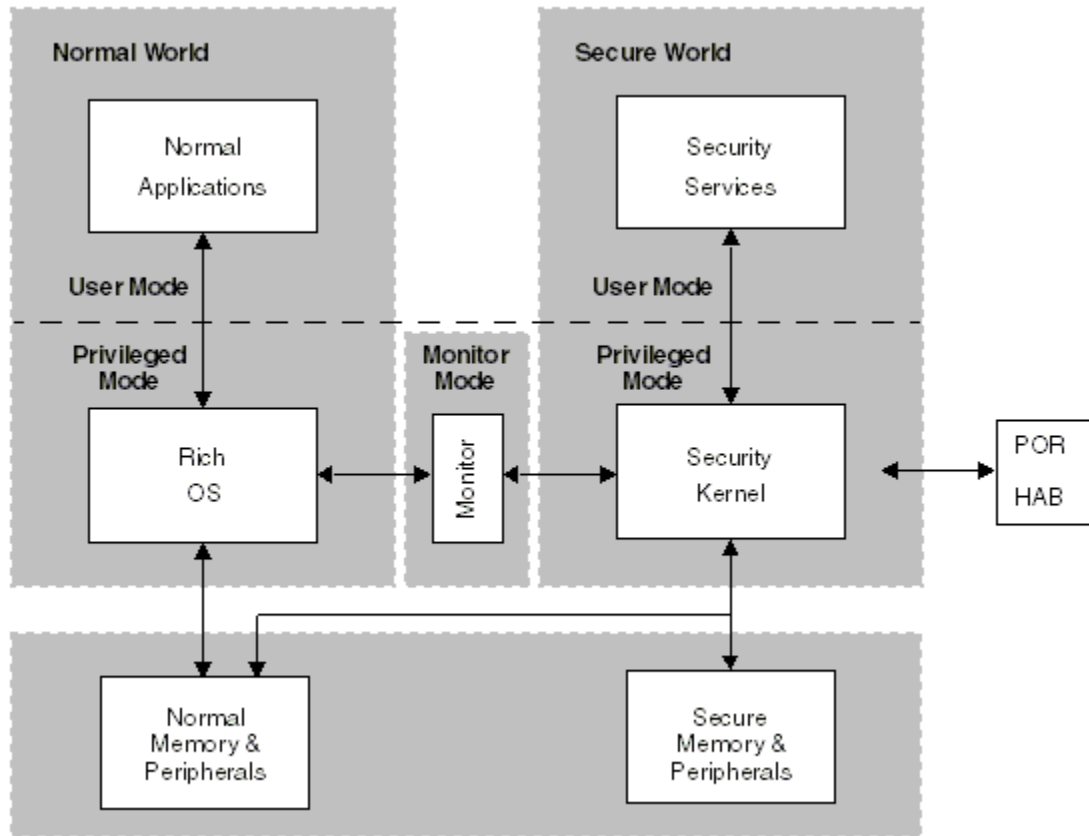

Figure 2-2. TrustZone security extensions
- The TrustZone security extensions in the Arm core (see Figure 2-2) duplicate the user, supervisor, and other privileged modes of the processor in the Secure World and the Normal World. The security services execute in the Secure World under the control of a security kernel, while the normal services and applications run in the Normal World with a rich operating system. TrustZone also provides a monitor mode, to which the Normal World operating system traps when the security services are required.